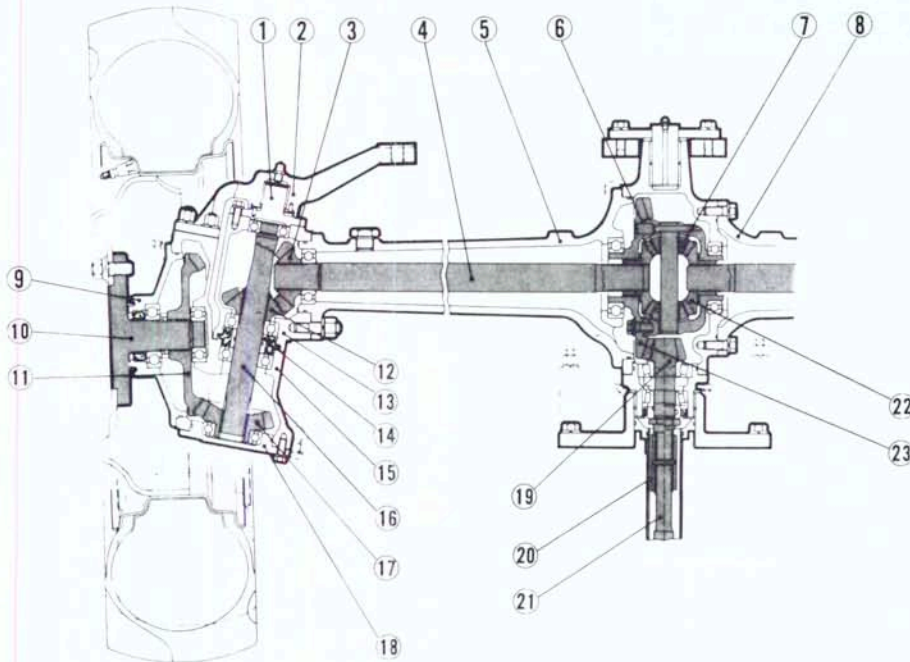

Fig. 7—Cross-sectional view of front-wheel drive axle assembly.
4. Front-wheel drive assembly includes transfer case, drive shaft, front axle, differential, axle shafts and axle hub assemblies. The transfer case is mounted to bottom of range transmission housing. Transmission oil lubricates transfer case assembly. Refer to Fig. 7 for cross-sectional view of front-wheel drive axle assembly.